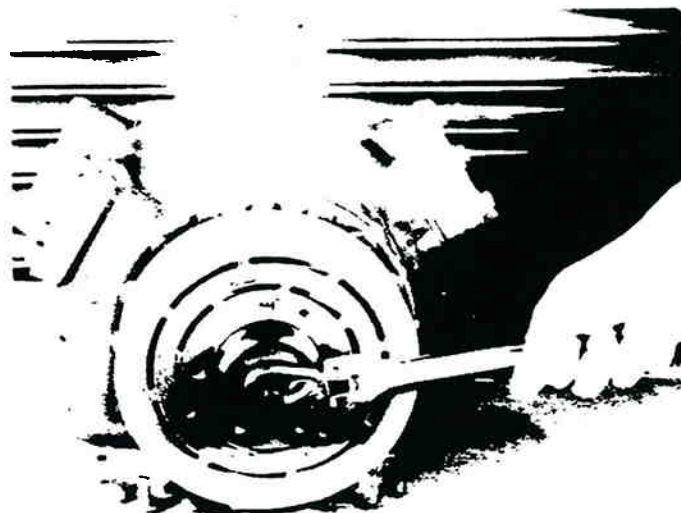

Figure 16-54: Removing Rotor Retaining Nut
7. Using special tool number 20-294, remove the rotor retaining nut. See figure 16-54.